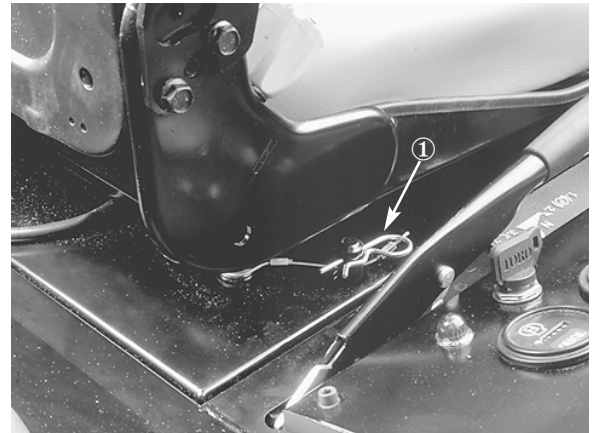

Figure 16
1. Remove the retainer clip from the seat lock rod (Fig. 16)